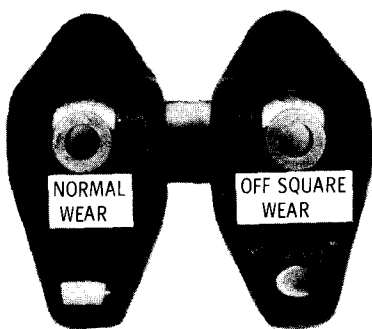

Figure 24—Rocker Arm Wear
b. Observe rocker arm pad for excessive wear or excessive off square. Replace as required (figure 24).